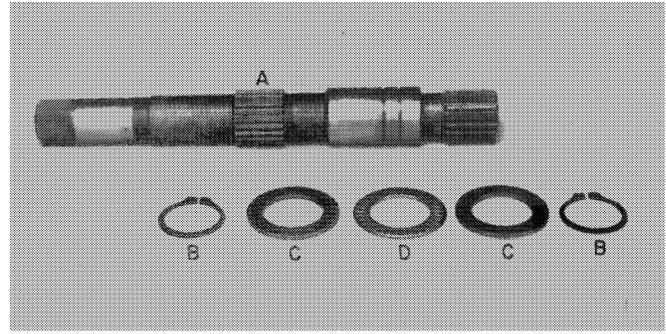

FIGURE 4-14
- d. The shaft and related parts are shown in Figure 4-14.